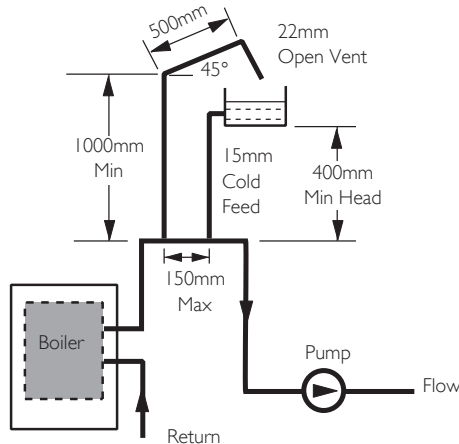

Fig. 10
1. Using a close couple arrangement the minimum head is as shown in the diagrams (Figs. 10 & 11) subject to the following conditions: